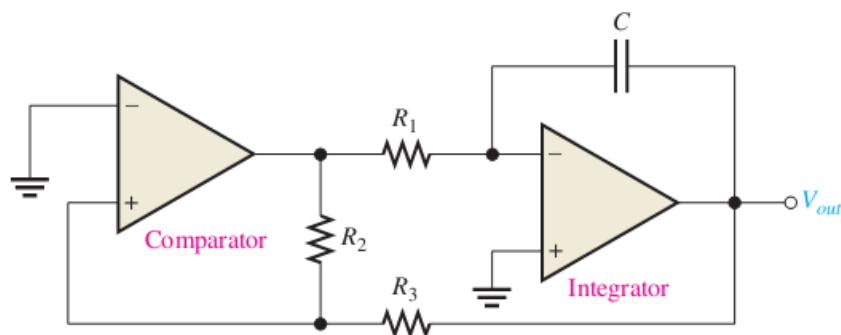

Figure 25 A triangular-wave oscillator using two op-amps.
- One practical implementation of a triangular-wave oscillator utilizes an op-amp comparator with hysteresis to perform the switching function, as shown in Figure 25.